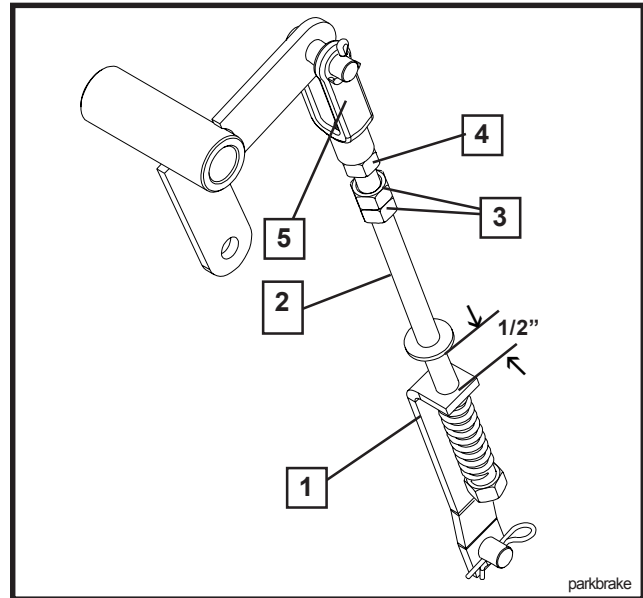

FIGURE 21
- If not loosen the nut against the yoke and turn the secondary linkage using the double nuts until the 1/2" gap is achieved on both sides. See Figure 21.